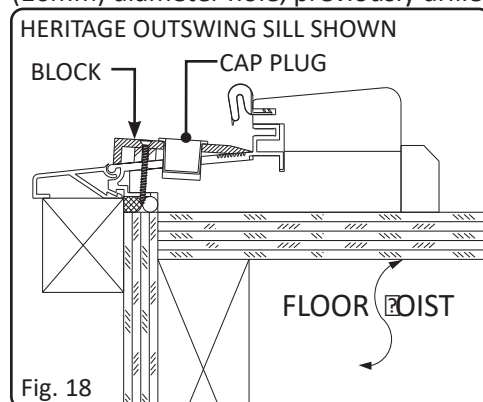

Fig. 18
The package includes a kit consisting of a head strike plate, cap plug, vinyl flush shoot bolt block, and screws, (Fig. 18.).
- Using the base of the cap plug as a locator, position the shoot bolt block (Fig. 18). Pre-drill a 7/64" (3mm) diameter lead hole through the holes in the flush bolt block. Remove the flush bolt block. *Save for later re-installation.*